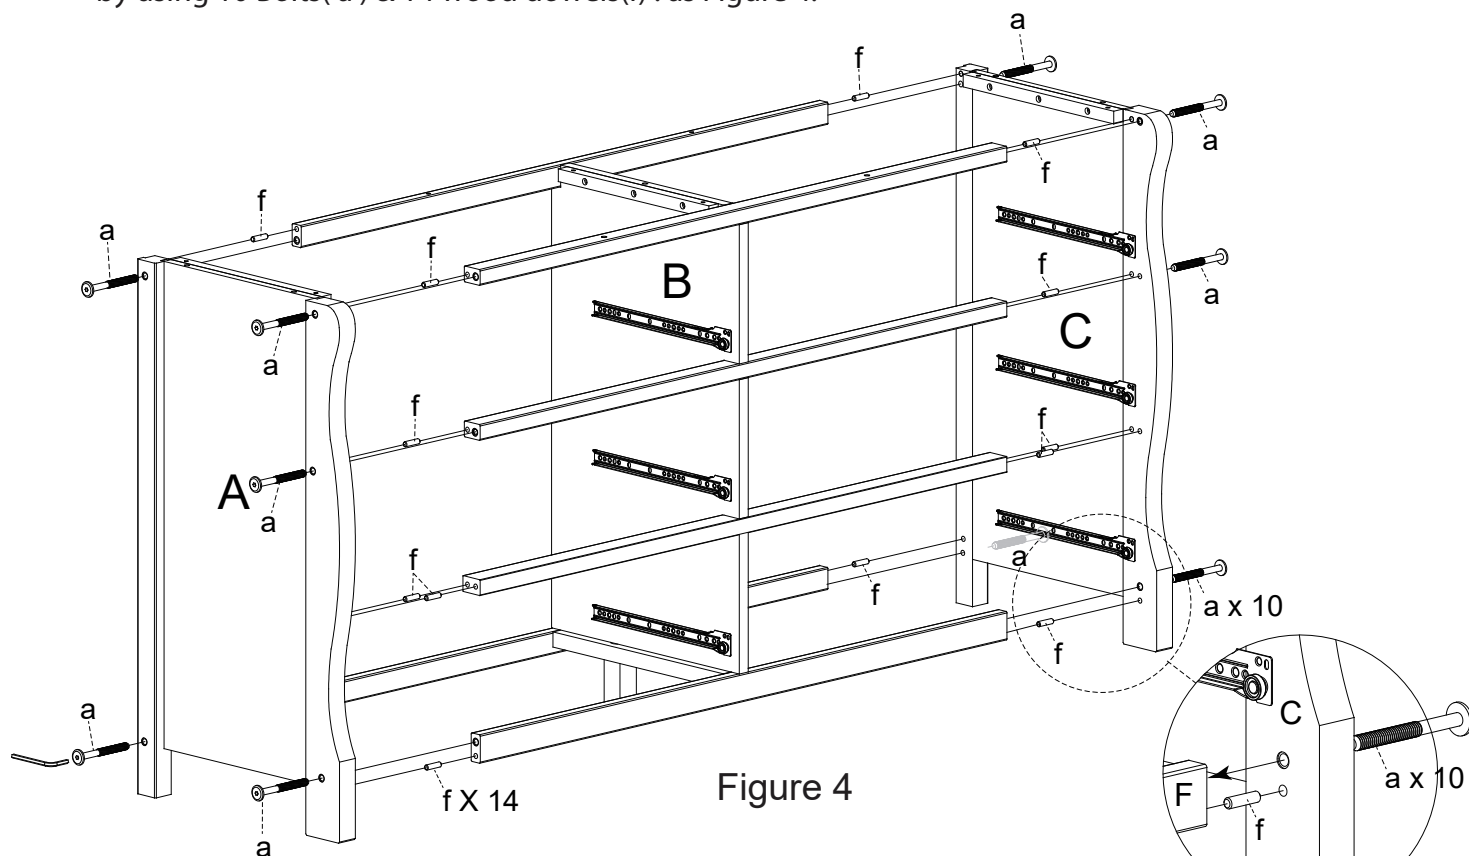

Figure 4
- 4** Attach left side panel (A) and right side panel (C) to Front Top rail (D) & Front Middle rail (E) & Front bottom rail (F) & Rear Top rail (G) and Rear bottom Rail (H) by using 10 Bolts (a) & 14 wood dowels(f) . as Figure 4.
4. Using Drawer Knob Screw (f), install one (1) Knob (j) on Drawer. *Figure 4.*
④